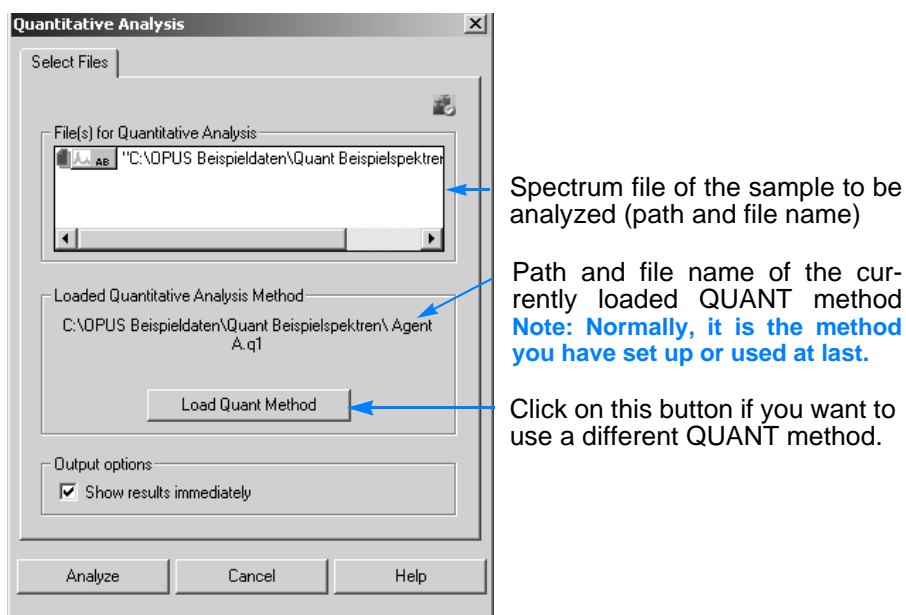

Figure 65: Quantitative Analysis dialog
- 2 Click on the *Evaluate* tab and then on the *Quantitative Analysis* button in the OPUS wizard. Thereupon, the *Quantitative Analysis* dialog window opens. See figure 65.
- 5 Make sure that the *Show results immediately* button is activated (see figure 65). In this case, the result is shown immediately after OPUS has completed the evaluation. The result is displayed in form of a report (see figure 66).